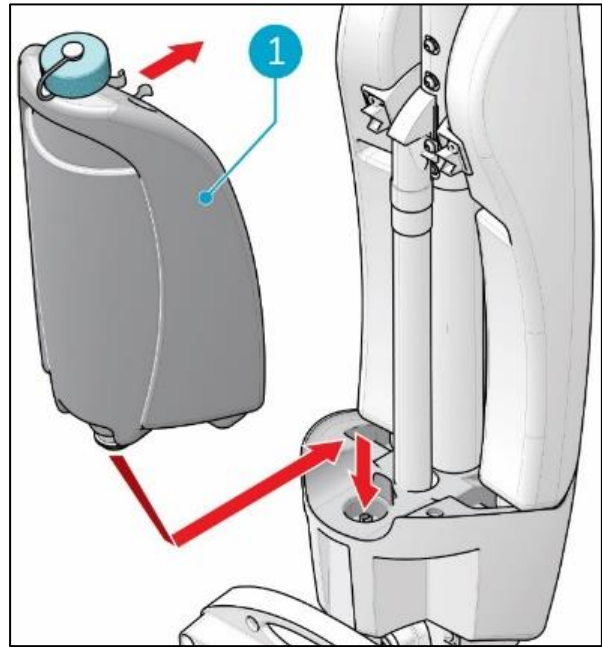

Figure 13
5. Put the tank on the i-mop XL basic with the valve first (Figure 13, pos 1).